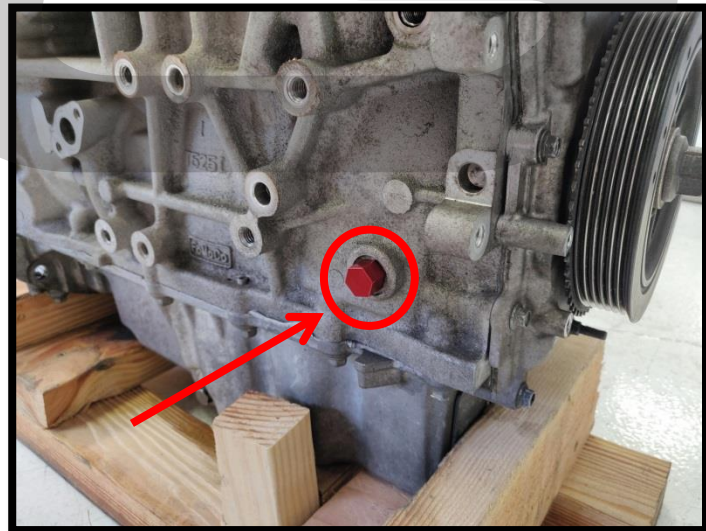

Figure 1b
- d) Install the CorkSport Crankshaft Timing Pin using a 14mm and tighten until snug. Shown in Figure 1b.